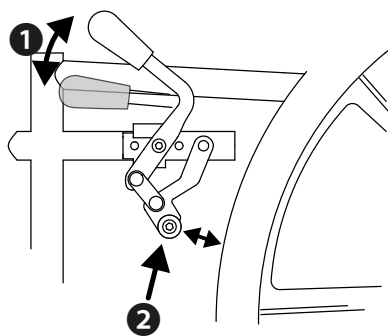

Fig.11
1. Push both brake levers forwards (1) until they snap perceptibly into place and the brake pads (2) lock the wheels into place (Fig. 11).